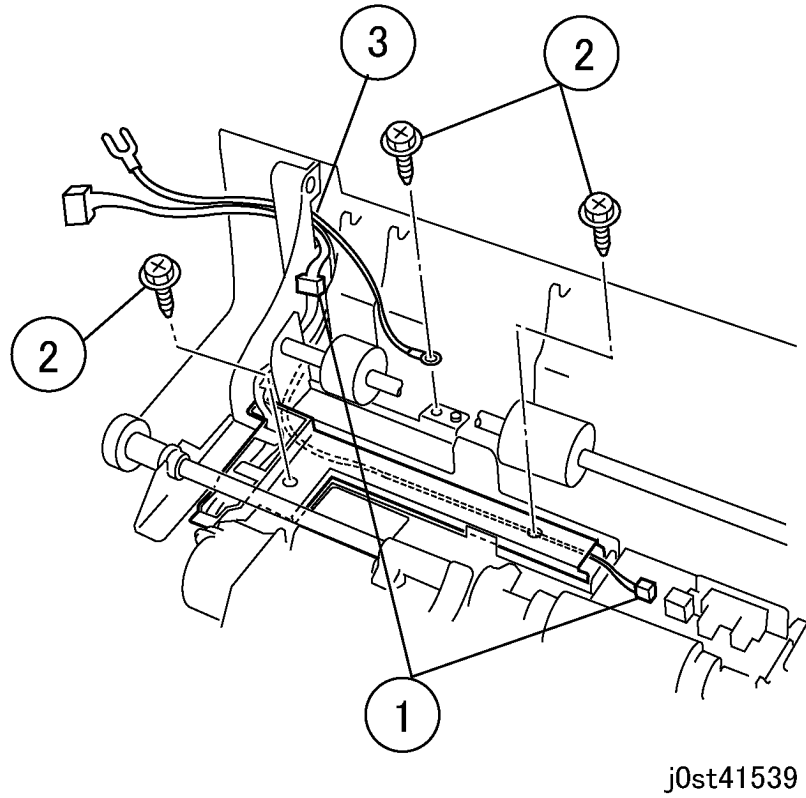

Figure 8 Removing the Wire Harness (j0st41539)
3. Remove the Wire Harness from the new Top Cover. (Figure 8)